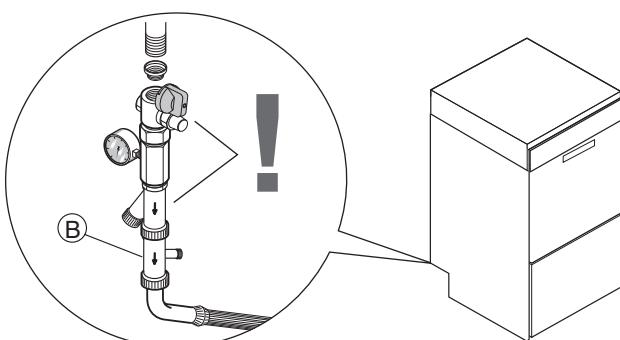

Figure 8 Supply pipe connection
Machines marked Watermark must be installed in conformity with AS/NZS 3500.1, and the non-return device supplied with the machine must also be installed (B - Figure 8). The drain must comply with 3500.2.
- Connect the equipment water pipe "WI" (see par. G7 "Installation diagram") to the water supply, interposing a tap, the filter (if provided) and a pressure gauge (Figure 8).
If the equipment is replaced, always use the new inlet hose provided. Be sure that the non-return valve "B" and the filter supplied are fitted correctly as shown in Figure 8.